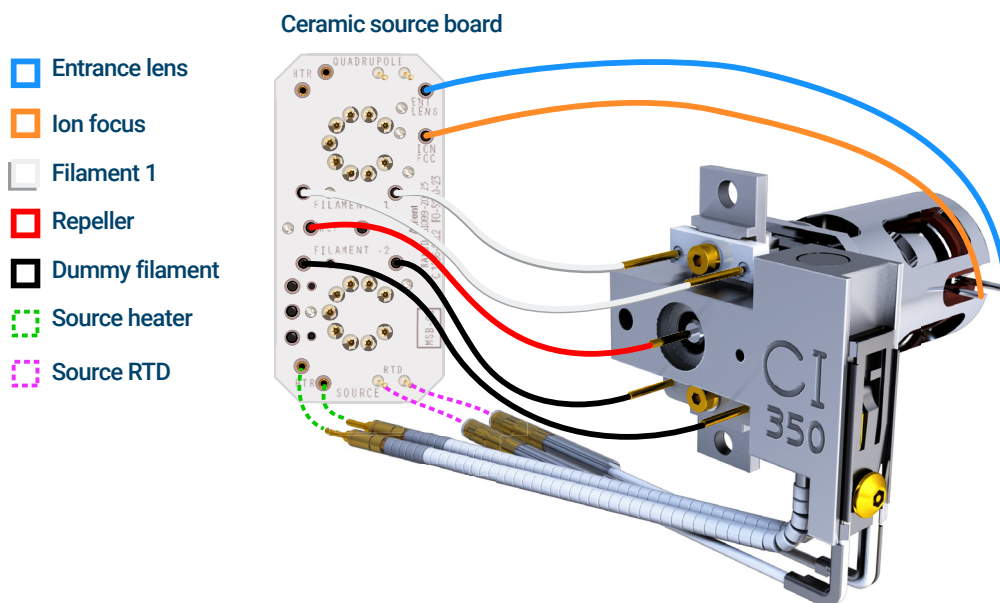

Figure 74. Wiring between the CSB and the CI source
- 1 Use tweezers or pliers to connect or disconnect the ceramic board wire leads at the source connectors. (See Figure 74.)